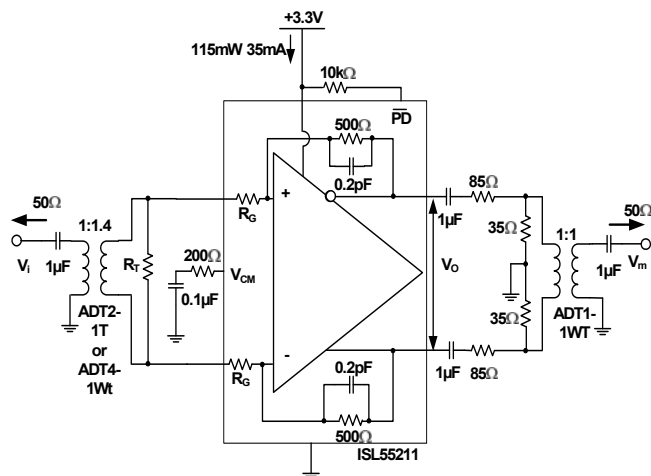
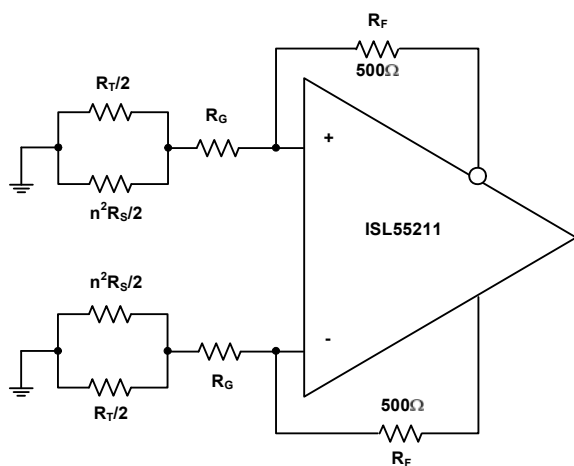
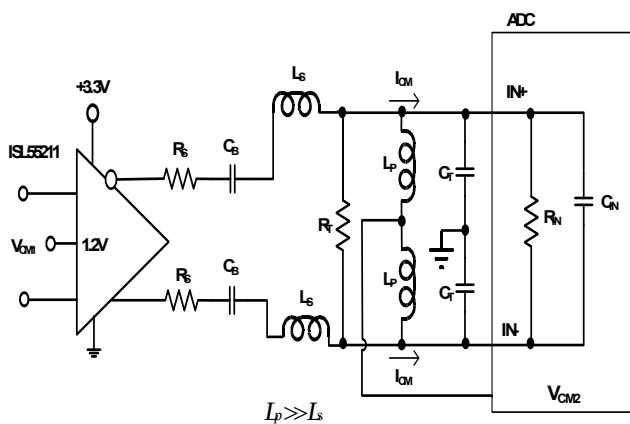

FIGURE 29. TEST CIRCUIT 1
FIGURE 35. NOISE GAIN MODEL FOR THE TRANSFORMER COUPLED INPUT CIRCUIT OF FIGURE 29
FIGURE 37. AC-COUPLED, HIGHER FREQUENCY RLC INTERSTAGE FILTER DESIGN
Test Circuit 1 of Figure 29 forms a starting point for many of the characterization curves for the ISL55211. Since most lab sources and measurement devices are single-ended, this circuit converts to differential at the input through a wideband transformer and would also be a typical application circuit coming from a single-ended source. Assuming the source is a 50Ω impedance, the internal R_G resistors and external R_T are set to provide both the input termination and the gain. Since the inverting summing nodes act as virtual ground points for AC signal analysis, the total termination impedance across the input transformer secondary will be $(2 \cdot R_G) \parallel R_T$. Setting this equal to $n^2 \cdot R_S$ will give a matched input impedance inside the bandwidth of the transformer (where "n" is the turns ratio). The amplifier gain is fixed by the selected input R_G element and the internal 500Ω feedback resistors. While the ISL55211 is internally a Voltage Feedback Design (VFA) to give the lowest possible noise, internal compensation caps hold the bandwidth over gain setting approximately constant at 1.4GHz. For wider small signal bandwidth at lower gains, consider the ISL55210, which provides >2.2GHz at a gain of 12dB.
Working with a transformer coupled input as shown in Figure 29, or with two DC blocking caps from a differential source, means the output common mode voltage set by either the default internal V_{CM} setting, or a voltage applied to the V_{CM} control pin, will also appear as the input common mode voltage. This provides a very easy way to control the ISL55211 I/O common mode operating voltages for an AC-coupled signal path. The internal common mode loop holds the output pins to V_{CM} and, since there is no DC path for an I_{CM} current back towards the input in Figure 29, that V_{CM} setting will also appear as the input common mode voltage. It is useful, for this reason, to leave any input transformer secondary centertap unconnected. The internally set V_{CM} voltage is referenced from the negative supply pin. With a single 3.3V supply, it is very close to 1.2V but will change with total supply voltage across the device as shown in Figure 27.
Most of the characterization curves starting with Figure 29 then get different gains by changing the connections to the two pairs of input R_G connections, as shown on the pin configuration drawing on page 2. Two input turns ratios are intended for Test Circuit 1; either a 1:1.4 turns ratio (ohms ratio of 2) or a 1:2 turns ratio (ohm ratio of 4). The specific transformers shown in Figure 29 are representative of broadband RF transformers but alternate devices and manufacturers of these turns ratio devices are certainly applicable. The output side of this test circuit presents a differential 200Ω load while converting the differential to single-ended through a resistive attenuator and a 1:1 transformer. This inserts approximately a 17dB insertion loss that is removed to report the characteristic curves. For load tests below the 200Ω shown in Figure 29, a simple added shunt resistor is placed across the output pins. For loads > 200Ω, the series and shunt load R's are adjusted to show that total load (including the 50Ω measurement load reflected through the 1:1 output measurement port transformer) and provide an apparent 50Ω differential source to that transformer. This output side transformer is for measurement purposes only and is not necessary for final applications circuits. There are output interface designs that do benefit from a transformer as part of the signal path as shown in Figure 1. In that case, the 1:1.4 output side transformer becomes part of a filter design and recovers the filter insertion loss from the amplifier output pins to the ADC inputs.
The characterization circuit of Figure 29 shows one possible input stage interface that offers several advantages. Where AC coupling is adequate, the circuit of Figure 29 simplifies the input common mode voltage control. If the source coming into this stage is single-ended, the input transformer provides a zero power conversion to differential. The two gain resistors (R_G in Figure 29) provide both a portion of the input termination impedance and the gain element for the amplifier. For 50Ω systems, these R_G resistors are too high with the turns ratios shown in Figure 29 to provide the full match and an external R_T resistor is required. This R_T element goes away at the highest gain setting using a 1:2 input turns ratio transformer.
This input interface also simplifies the input common mode control. The V_{CM} pin controls the output common mode voltage. In most DC-coupled FDA applications, the input common mode voltage is determined by both this output common mode and the source signal. In a configuration like Figure 29, there is no path for a common mode current to flow from output to input, so the input common mode voltage equals the output. A similar effect could be achieved with just two blocking caps on the two R_G resistors. A DC-coupled, single to differential, configuration will also have a common mode input that is moving with the input signal. Converting to just a differential signal at the amplifier, as in Figure 29, removes any input signal related artifacts from the input common mode making the ISL55211 behave as a differential only VFA amplifier. There is only a very small differential error signal at the inputs set by the loop gain, as in a
of 1.3V for instance, then 1.3V + 0.9V + 1.5V = 3.7V will give an unclipped 3.6V_{P,P} output capability. The $V_{P,P}$ reported in Figure 27 is an asymmetrically clipped maximum swing. Going 10% above this 3.7V target to 4.1V will be within the recommended operating range and give some tolerancing headroom that would also suggest the V_{CM} voltage be moved up to approximately 1.5V, which coincides with the default output V_{CM} from Figure 27. Operating at +4.1V single supply in a Figure 29 type configuration will give the maximum linear differential output swing of 3.6V_{P,P}.
The differential inputs internal to the ISL55211 also have operating range limits relative to the supply voltages. Operating in an AC-coupled circuit like Figure 29 will produce an input common mode voltage equal to the outputs. The inputs can operate with full linearity with this V_{CM} voltage down to 1.1V above the -Vs supply. On the default 1.2V output V_{CM} on +3.3V supplies this gives a 100mV guardband on the input V_{CM} voltages. Overriding the default V_{CM} by applying a control voltage to the V_{CM} pin should be done with care in going towards the negative supply due to this limit. On the + side, the maximum input V_{CM} above the -Vs supply is 2V so there is more room to move the output V_{CM} up than down from the default value.
Adding an input transformer can improve the input referred noise by adding a noiseless voltage gain. Starting from Test Circuit 1 of Figure 29, and assuming the source shows a matched broadband source R_S that will be matched by the input referred parallel combination of $2 \cdot R_G \parallel R_T$, a noise gain analysis circuit can be developed as shown in Figure 35.
Stepping through the 3 gain settings with two input transformers will allow the noise gain to be calculated for the circuit of Figure 35, which is all that is needed in Equation 1 to arrive at an output differential noise (since R_F is fixed at 500Ω). Doing this gives Table 4.
2. AC-coupled, higher frequency range interstage filter design. This design replaces the R_T resistors in Figure 35 with large valued inductors and implements the filter just using shunt resistors at the end of the RLC filter. In this case, the ADC V_{CM} can be tied to the centerpoint of the bias path inductors (very much like a Bias-T) to provide the common mode voltage and current to the ADC inputs. These bias inductors do limit the low frequency end of the operation where, with $1\mu\text{H}$ values, operation from 10MHz to 200MHz is supported using the approach of Figure 37.